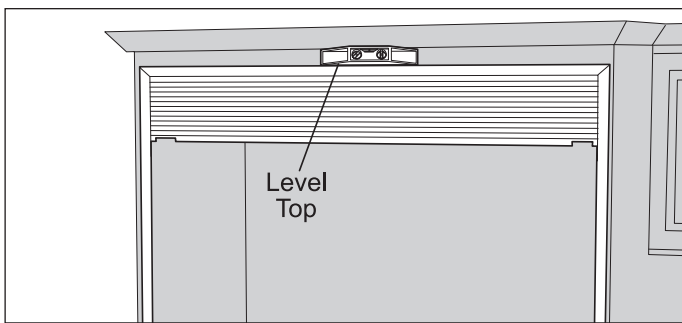

Figure 2-16.
3. Level the top of the trim frame using a carpenter's level. (See Figure 2-16).